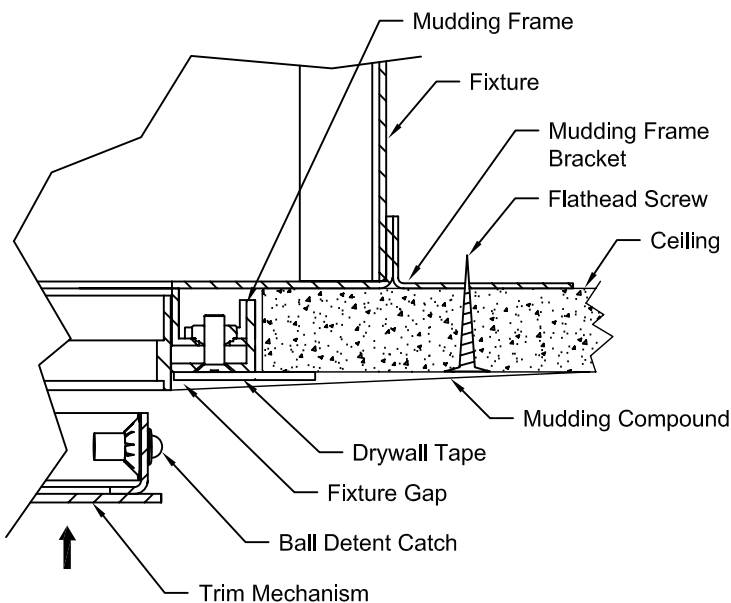

Figure 3
9. Install Ceiling drywall up to Mudding Frame on Fixture so that the two (2) Mudding Frame Brackets on Fixture contact inside of Ceiling. See Fig. 3.
10. Retain Fixture to Ceiling with one (1) Flathead Screw through each of two (2) Mudding Frame Brackets. See Fig. 3.
11. Apply Drywall Tape and Mudding Compound to Mudding Frame overlapping Mudding Frame, Flathead Screws, Fixture Gap and surrounding area. Feather out Mudding Compound from Mudding Frame opening to surrounding ceiling area to produce a smooth, flat finish. See Fig. 3.
2. Install Trim Mechanism into Fixture by pressing firmly to seat Ball Detent Catches. See Fig. 3.